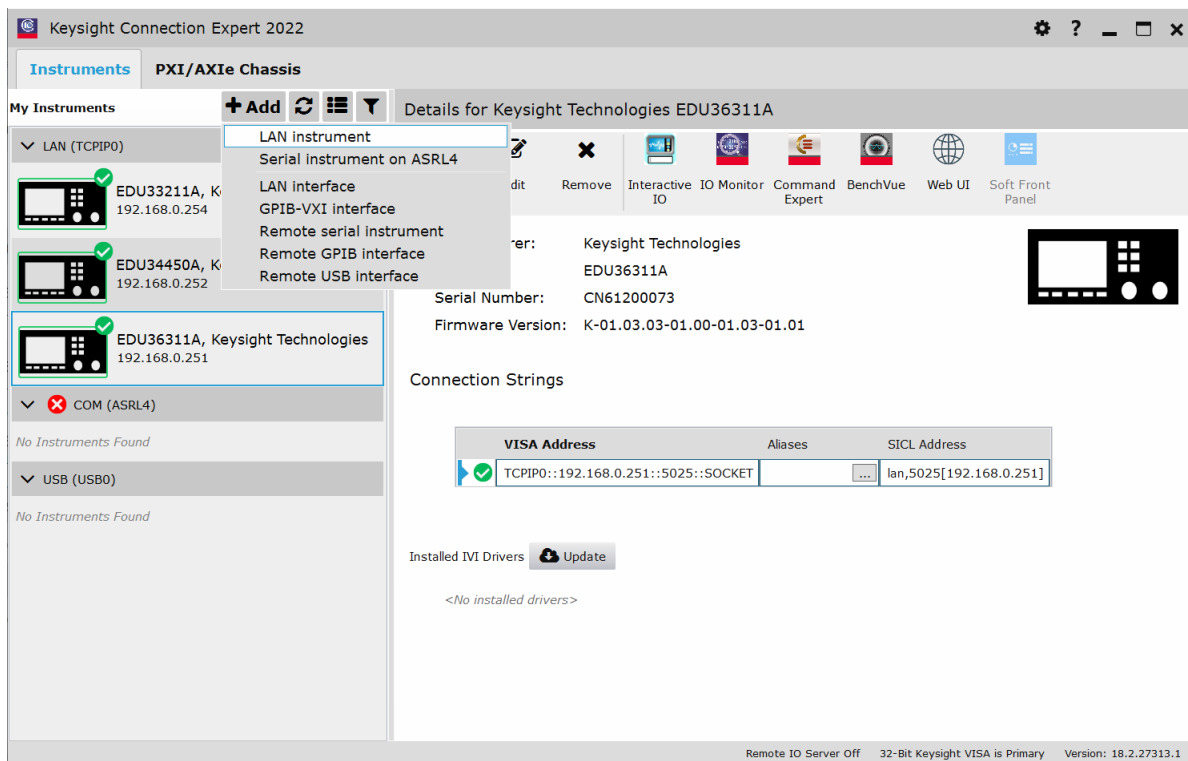

Figure 2: Keysight Connection Expert: adding a LAN instrument.
2. Next, open the Keysight IO Manager (also called Keysight Connection Expert), and press the **+ADD** button, then **LAN Instrument**. Note that the 3 instruments shown in the screenshot in Figure 2 were previously set up. If your PC shows 4 instruments there, it is already set up and you can skip to step 4. If there are no instruments, continue with this one.